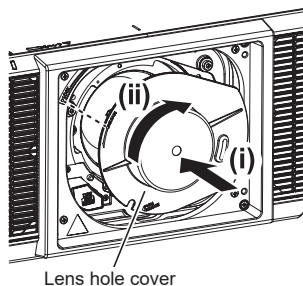
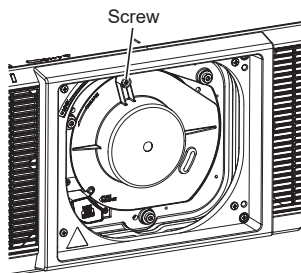

Fig 2
Fig 3
3) Attach the lens hole cover supplied with the projector (Fig 2).
- Insert the lens hole cover while aligning the marker (O) on the lens hole cover with the marker on the projector (O to the left of "LOCK"), and turn it clockwise.
4) Secure the lens hole cover (Fig 3).